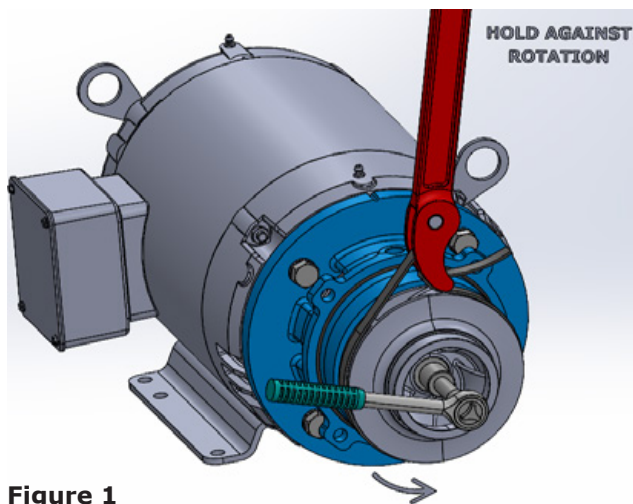

Figure 1
7. Hold the impeller from rotation using strap wrench and remove impeller retaining assembly with socket wrench (Figure 1).